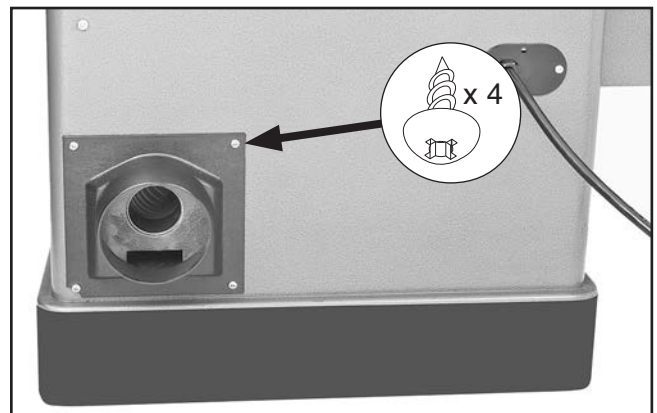

Figure 25. Dust port installed.
- Mount dust port onto cabinet with (4) pre-installed tap screws, as shown in **Figure 25**.